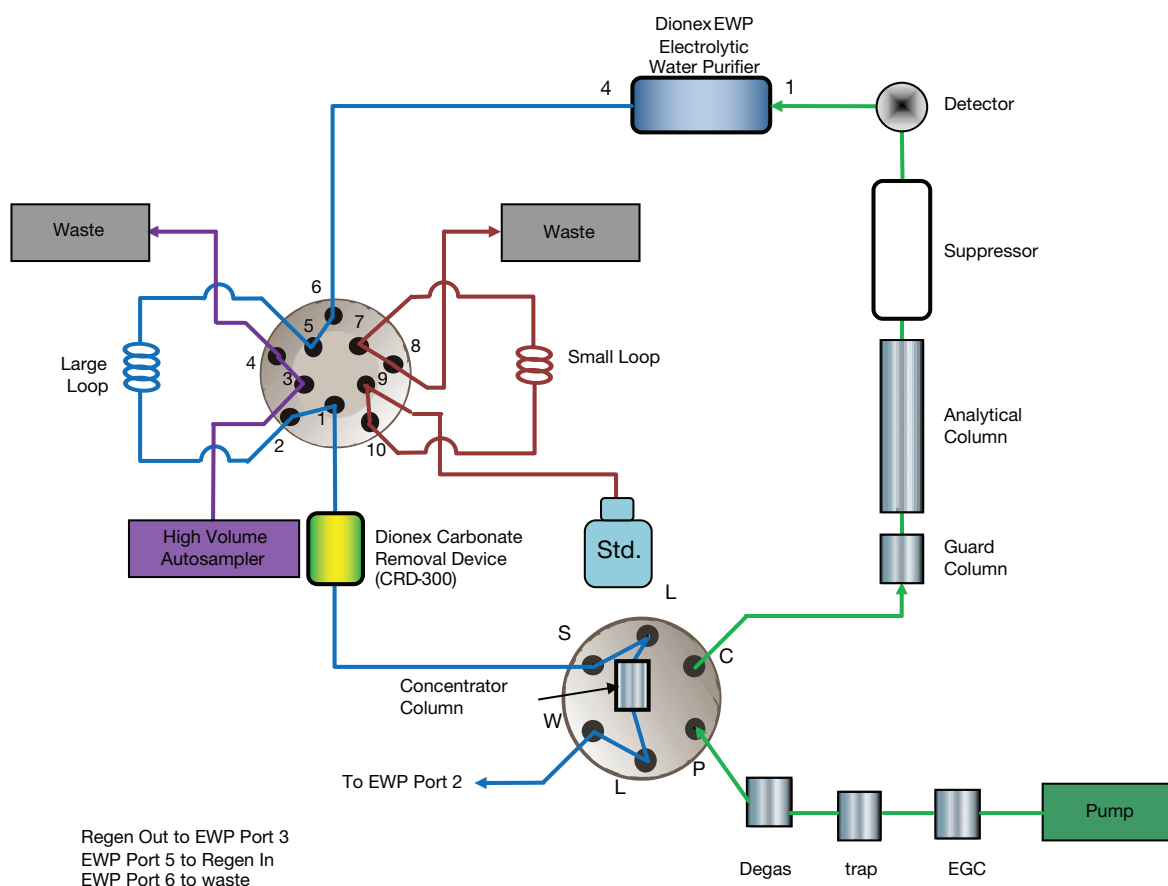

Figure 1. Flow diagram.
The Dionex ICS-5000+ HPIC system is a high-pressure, modular dual IC system. This system, the Dionex EGC 500 KOH cartridge, and Dionex CR-TC 500 Continuously Regenerated Trap Column consumable products are designed for high pressure conditions up to 5000 psi. To set up this application, connect the Dionex ICS-5000+ HPIC system, Dionex AS-HV Autosampler, Dionex EWP Electrolytic Water Purifier, and Dionex AutoPrep system as shown in Figure 1. Notice that the flow path from the pump to the CD Conductivity Detector is similar to that of most IC systems.
- Complete the IC system plumbing according to Figure 1
The Dionex AS-HV Autosampler is a high-volume autosampler designed for trace ion applications. This autosampler is a low-pressure autosampler, therefore samples are loaded into a sample loop and then the sample is transferred to a concentrator column. Plumb the Dionex AS-HV Autosampler in Pull mode through the waste and sampler ports in the Dionex AutoPrep valve (Dionex Automation Manager AM-HP1 10-port valve) according to Figure 1, Table 6, and the autosampler Operator's Manual.⁹